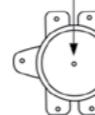

Fig. 14
- for FSM6/FSM4 series horizontal-type water heaters: press the button, located in the center of the thermal switch, placed near the heating element (with a round shape), until it clicks, Fig.14;